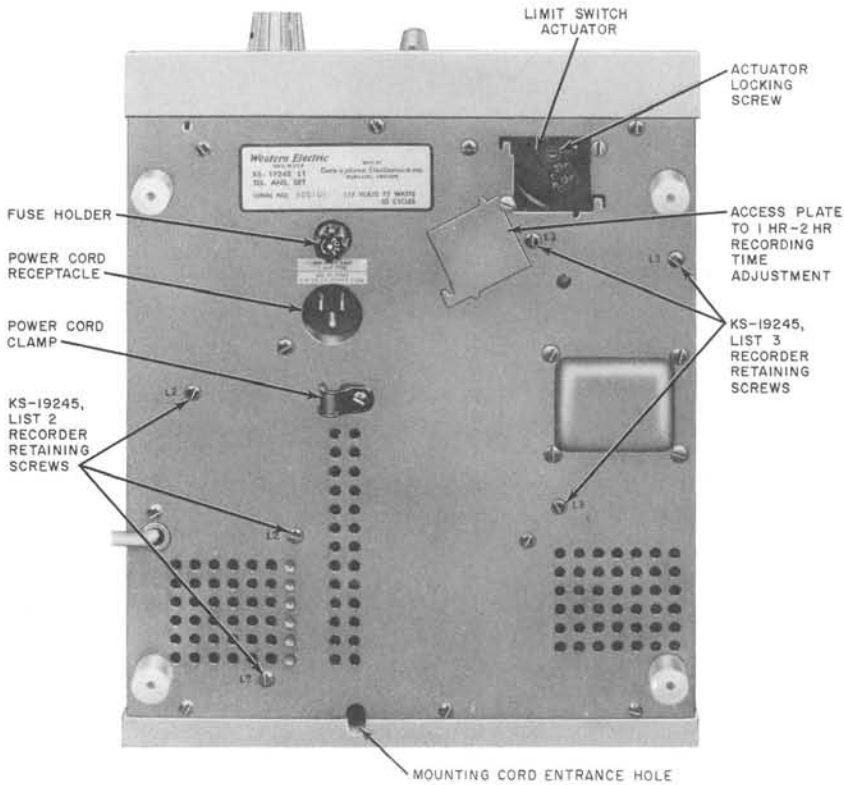
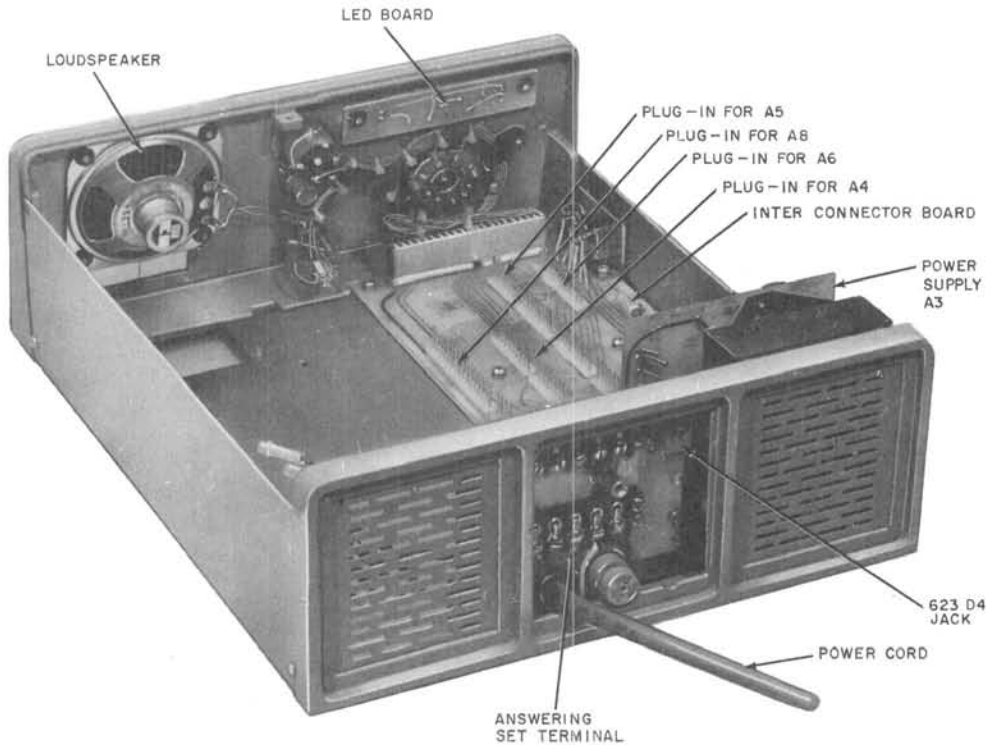
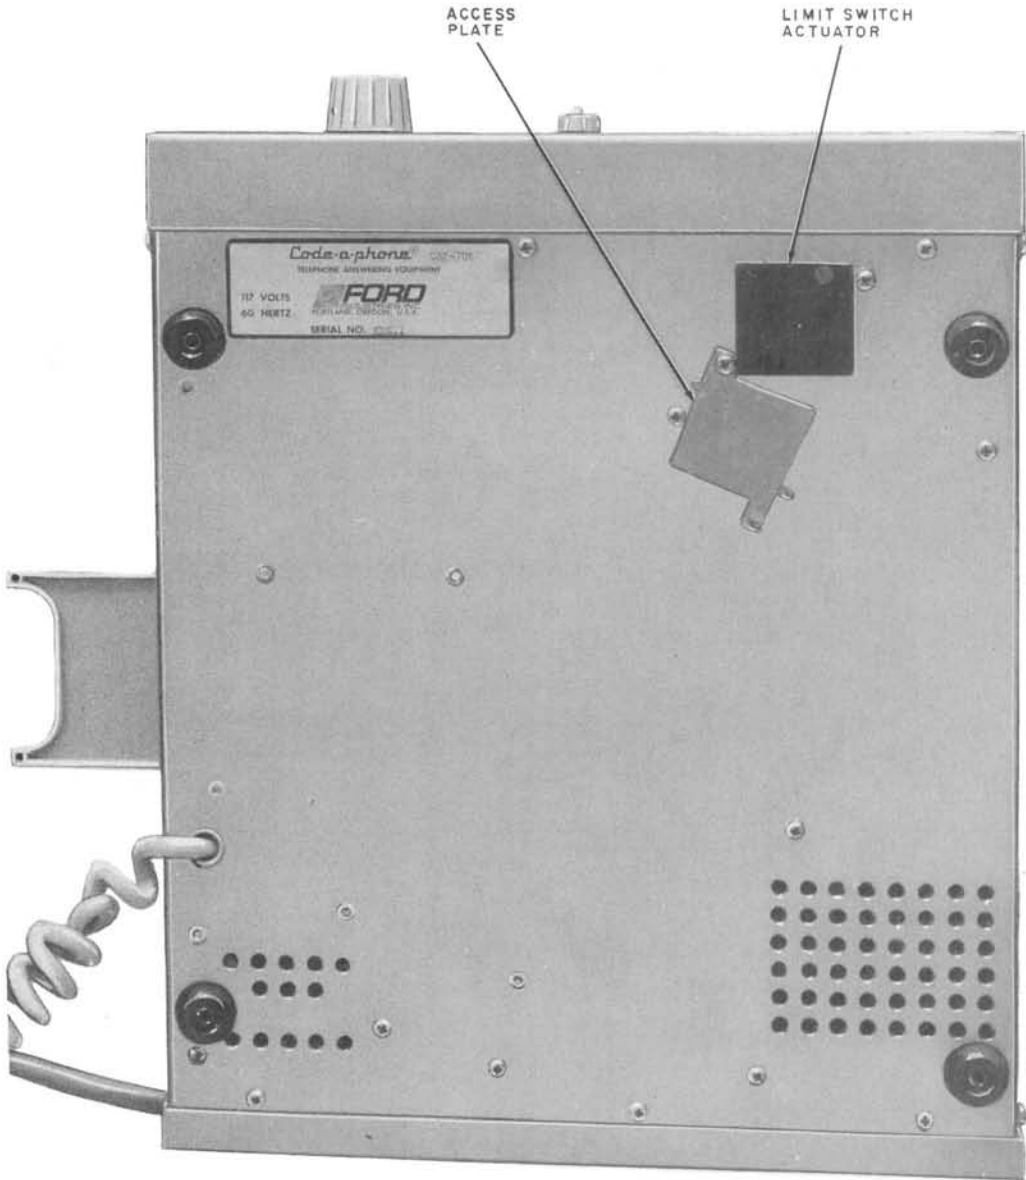
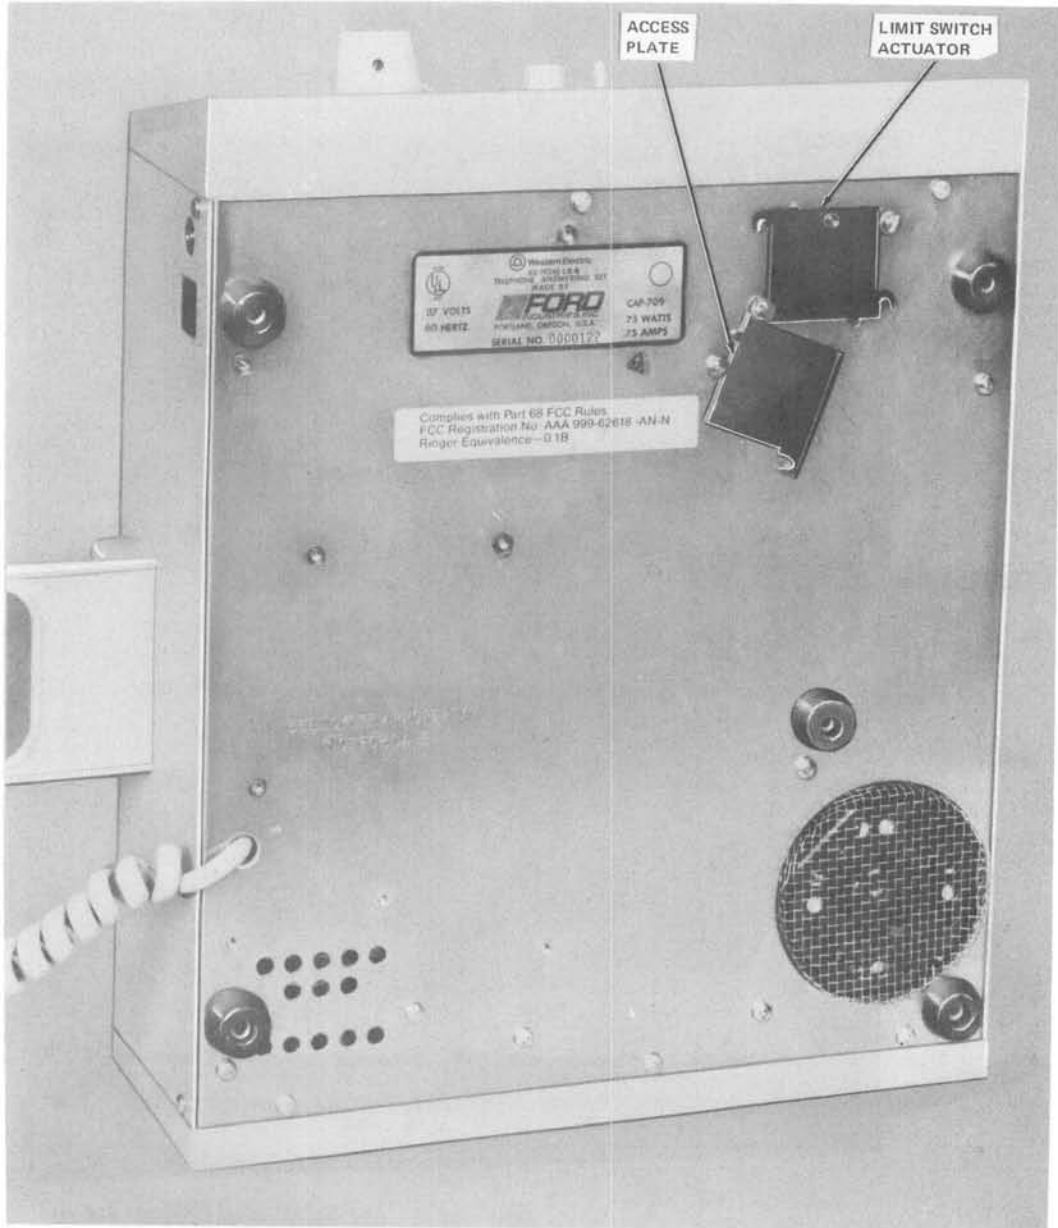

Fig. 20—KS-19245, List 1 (MD) Telephone Set—Bottom View
Fig. 21—KS-19245, List 13 (MD) or List 24 Telephone Set—Cover and Components Removed
Fig. 22—KS-19245, List 13 (MD) Telephone Answering Set—Bottom View
Fig. 23—PKS-19245, List 24 Telephone Answering Set—Bottom View
**5.05 Message Recording Capacity Option:** Adjust message recording capacity (List 1, Fig. 20; List 13, Fig. 22; List 24, Fig. 23).
- (1) Insert plug of power cord into ac outlet.
- (2) Run the set in rewind to obtain an elapsed message indicator dial reading of 0 (set will stop automatically).
- (3) Remove access plate.
- (4) Adjust limit switch actuator (List 1 set only, Fig. 20).
- (5) Adjust limit switch actuator (List 13 set, Fig. 22; List 24 set, Fig. 23) by sliding actuator to 2hr position. A detent will lock actuator in position (Fig. 22).
- (6) Replace access plate.
- (d) A List 11 power cord (shipped loose) connects to receptacle on List 1 set only (Fig. 20). Lists 13 and 24 set power cord is wired to set (Fig. 21).
- (a) For List 1 only, insert suitable mounting cord through hole provided in base of answering set (Fig. 20) and make connections for type of service required as shown in Table A.